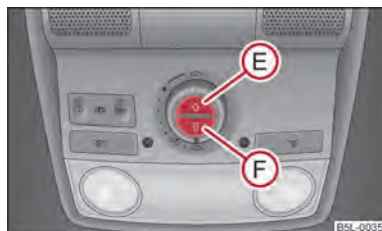

Fig. 22 Buttons for sun screen
You can open or close the sun screen separately with the aid of the buttons ⇒ fig. 22.
- Briefly press the button **E** ⇒ fig. 22 in order to fully open.
- Briefly press the button **F** ⇒ fig. 22 in order to fully close.
Press the switch (F) ⇒ fig. 22 for approx. 10 seconds in order to initialise the sun screen.